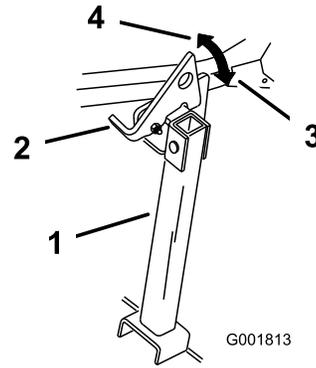

Figure 49
- Raise the latch to the unlocked position (Figure 49).